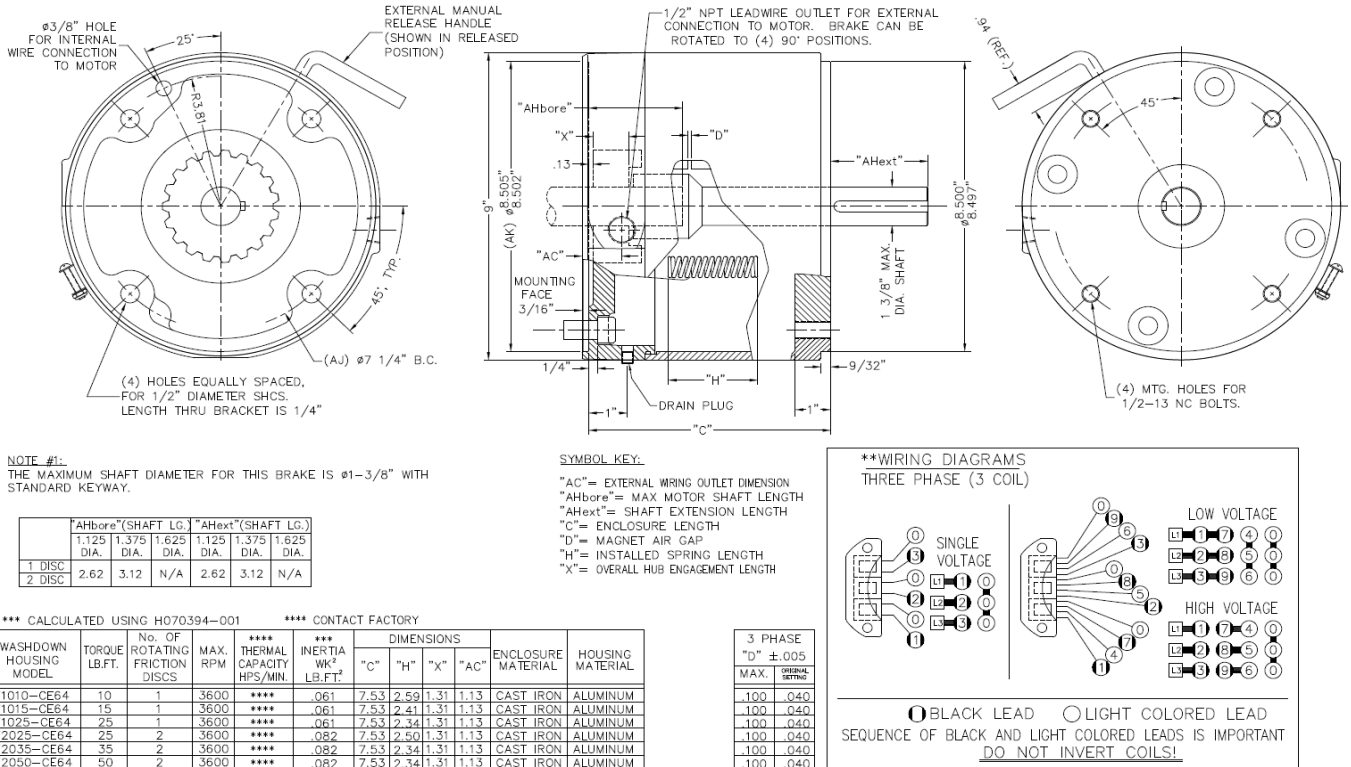

Figure 1 - Brake Outline
INSTALLATION (See Figures 1, & 2, Table 1)
1. Remove hub (99) from brake and position on motor shaft with key according to dimension "X"+.13" per figure 1. Stamped part number on hub should face away from motor. Tighten hub set screws with 18 lb.ft. torque.
3. For IP56 (NEMA4) version, place gasket (91) onto motor side mounting face with mounting holes aligned.
4. Place brake on motor, guiding discs onto and through the hub. For IP56 (NEMA4) version, use caution not to pinch or damage the gasket (91).
5. Insert and install the 1/2 SHCS through the housing windows at four spots and secure and tighten each one to motor "C" face using an extended length ball end hex key brake. See Figure 1 to help in determining proper bolt length. Final bolt thread pitch, length and mounting torque is dependent on the material and depth of the threaded holes in the mounting face.
9. Connect coil leads per appropriate wiring diagram in Figure 1.